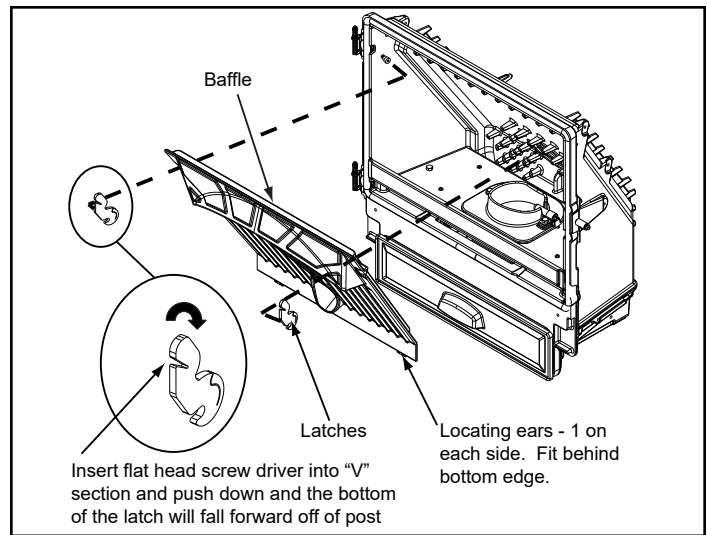

Figure 21.2
4. Remove baffle by placing a flat head screw driver into the slot of the latches located in the upper corners and rotate down. The bottom of the latch will fall forward off of the post. Lift the baffle up and then out toward you (**Figure 21.2**).